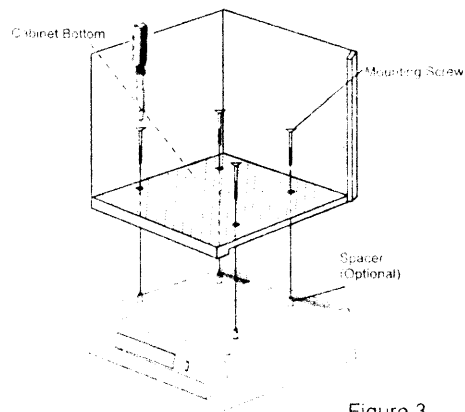

Figure 3
- Insert the four selected screws through each hole from the inside of the cabinet going down. Align the four holes of the unit with the screws, push the unit (and spacers if your cabinet is with overhang) onto the screws. <See Figure 3>